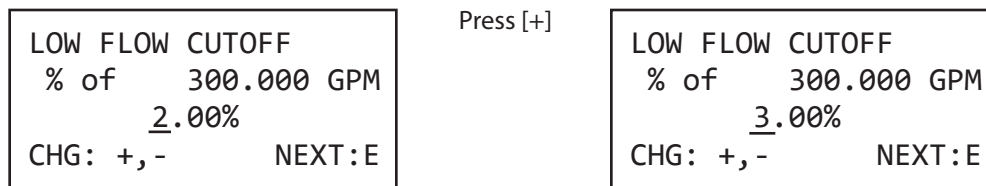

Figure 28: Enter a numeric value
**Example 2:** Some procedures require you to enter a numeric value. Use the [+] button to increment the selected numeral. Figure 28 shows the *Low Flow Cutoff* parameter display. Notice the cursor under the 2. In this case, press [+] once to increment the numeral to the value of 3.00%.